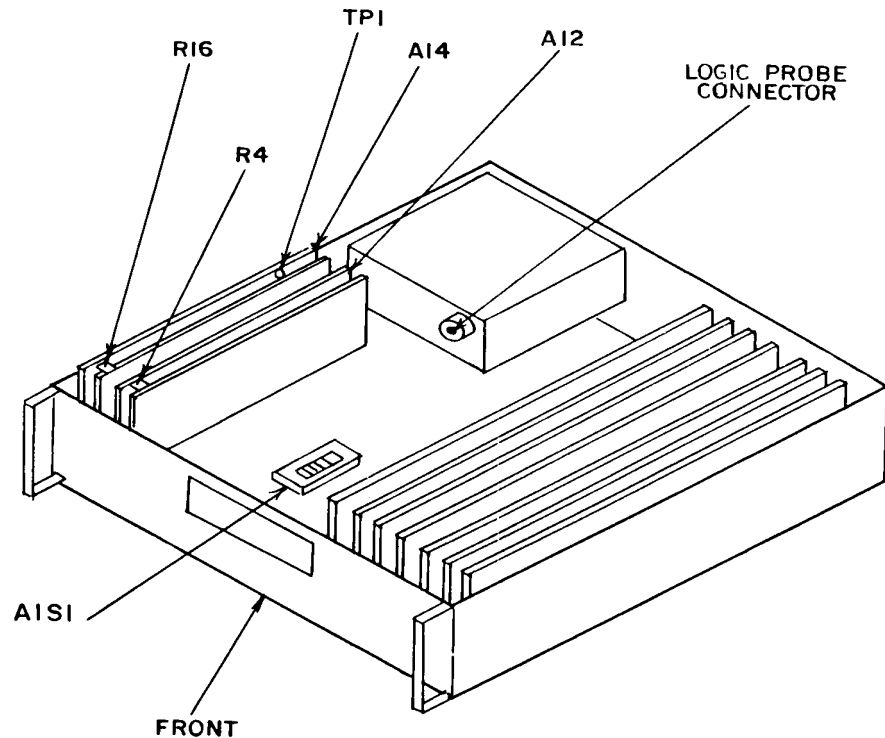

Figure 1. Test instrument - top view.
- (1) Remove TI top cover and connect oscilloscope to **A14TP1** (fig. 1).
(2) Adjust oscilloscope controls as required to view one complete cycle of waveform. If waveform does not have a 50 percent duty cycle, perform **b** below.
(3) Set **PATTERN** switch to **(20)-1** and **CLOCK** switch to **75**.
(4) Momentarily set **START/STOP** switch to **START**. Observe **JITTER** readout for one minute. **JITTER** readout indication will be 2 percent or less.
**b. Adjustments.** Adjust **A14R16** (fig. 1) for an observed duty cycle of 50 percent (R).
(1) Connect frequency counter to **INT XMIT CLOCK** connector (rear panel)
(2) Set **COUNT D/O COUNT C/L** switch **A1S1** (fig. 1) to **COUNT D/O**.
(3) Set **CLOCK** switch to settings listed in table 3. Frequency counter indications will be within limits specified.
(9) Adjust pulse generator amplitude for +5V peak. If digital readout does not indicate between 18 and 22 percent and oscilloscope channel 1 waveform is not at least a 2V peak to peak square wave, perform **b** below.
(10) Set **JITTER/TOTAL PEAK** switch to **JITTER**. Digital readout will indicate less than 3 percent.
(11) Disconnect all equipment.
**b. Adjustments.** Adjust **A12R4** (fig. 1) for a 2-V p-p square wave on oscilloscope channel 1, and a digital readout of 20 percent (R).